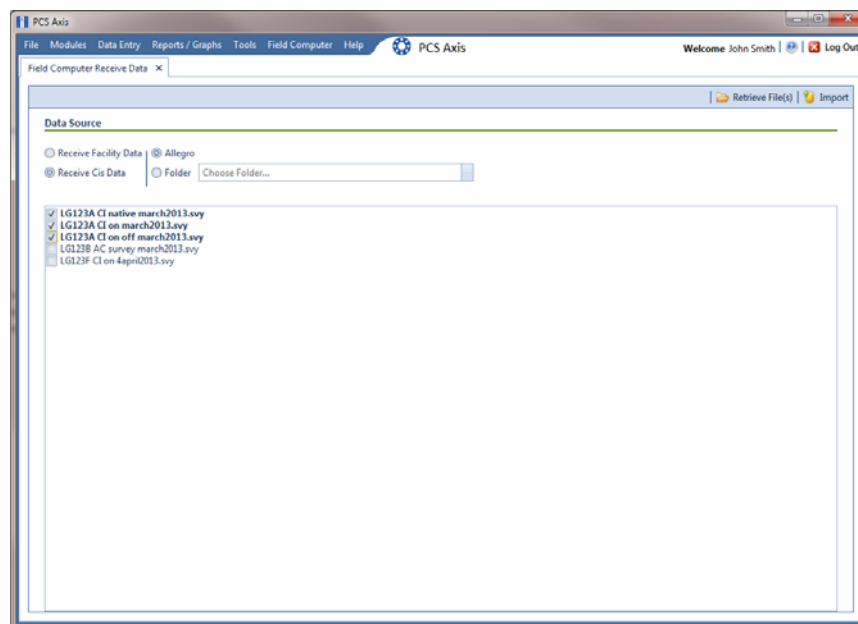

Figure 13-20. Field Computer Receive
- 4 Click  **Retrieve File(s)** to view a list of survey files available for selection (Figure 13-20).
- 5 Select the close interval (CI) survey files you want to transfer from the Allegro. Click the check box for one or more survey files listed in the *Field Computer Receive Data* window.